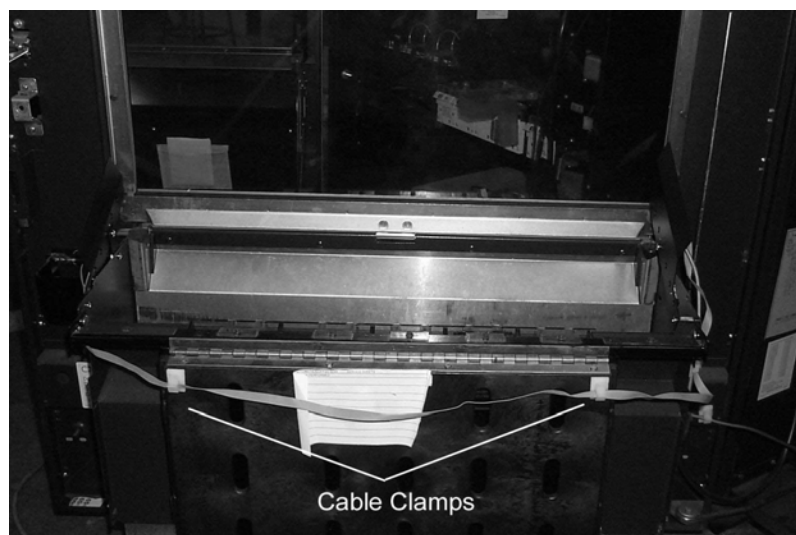

Figure 18
15. Route the cable along top side of gum/mint dispenser and along hinge side of bin as shown in **Figures 18 and 19**.